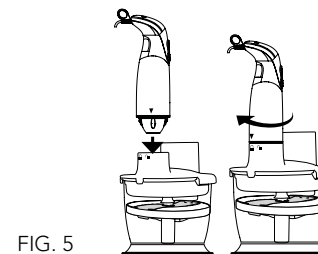

FIG. 5
5. To assemble the motor unit, align the arrow mark on the motor unit with the unlocked symbol (U) on the food processor lid and attach the motor body to the food processor lid. Turn the motor body in the clockwise direction until the arrow mark on the motor unit is aligned with the locked symbol (L) on the lid and the motor unit is securely locked in place as shown in Fig. 5.